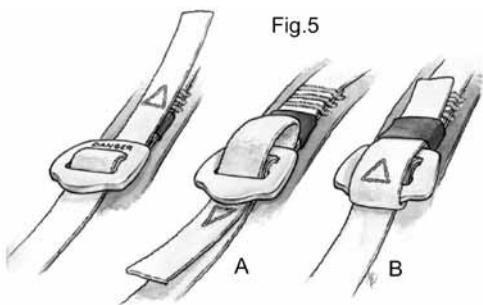

Fig.5
**5.2 Pass the surplus of the strap in the opening of the buckle. Make sure that the return of the strap covers the word « DANGER » and that the yellow arrow goes out from the last passage. (Fig 5-A)**
5.3 Put the slack of the straps in the elastics provided. (Fig 5-B)